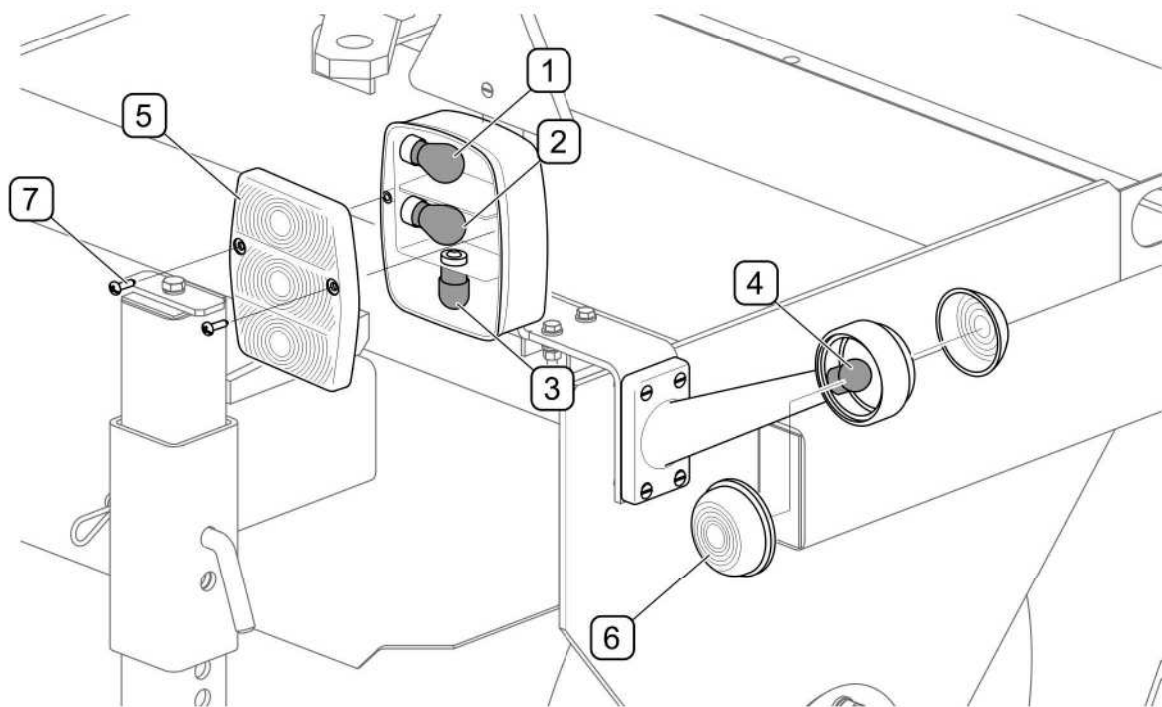

FIG. 5.11 **Change bulbs**
replace appropriate bulb (FIG. 5.11). To replace bulb of clearance lamp, take out lens (6) from flexible housing.
If sprinkler electrical system fails, first check water level in the tank and if filters (FIG. 5.11) are clean and the correct connection of the control cable with the switch and water pump power cable.